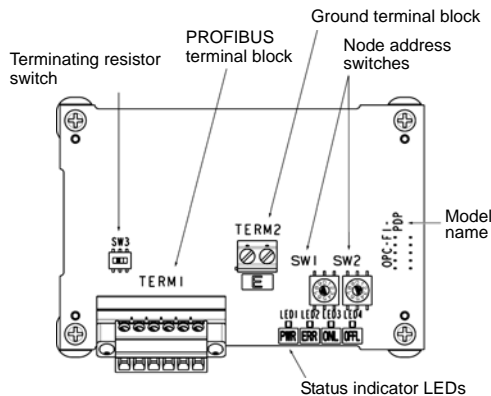

Figure 1 Front of the Card
- (1) A PROFIBUS DP interface card is contained in the package.
- (2) The card has not been damaged during transportation--no defective electronic devices, dents, or warp.
- (3) The model name "OPC-F1-PDP" is printed on the card. (See Figure 1.)